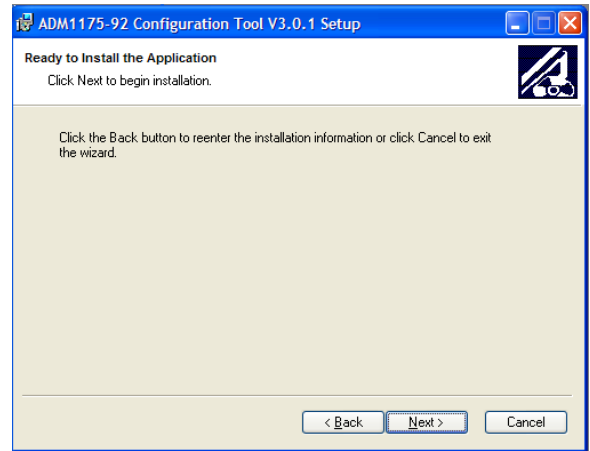

Figure 5. Evaluation Software—Ready to Install
5. To change the destination folder, click **Browse** to create a new destination folder. Otherwise, click **Next**. The **Ready to Install the Application** window appears (see Figure 5).